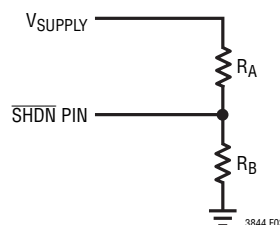

Figure 3. Undervoltage Lockout Circuit
When laying out the printed circuit board, the following checklist should be used to ensure proper operation. These items are illustrated graphically in the layout diagram of Figure 3.
5. Locate the V_{CC} and BOOST capacitors in close proximity to the IC. These capacitors carry the MOSFET driver's high peak currents. Place the small-signal components away from high frequency switching nodes (BOOST, SW and TG). In the layout shown in Figure 3, place all the small-signal components on one side of the IC and all the power components on the other. This helps to keep the signal and power grounds separate.